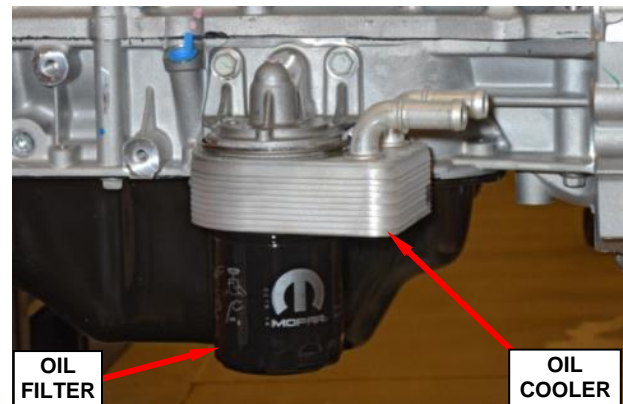

Figure 98 – Engine Oil Cooler
- a. Remove the engine oil filter (Figure 98).